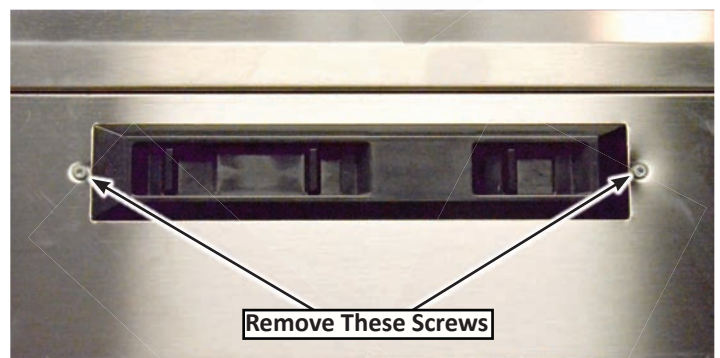

Figure 4
6. Remove (2) screws, one at on each side of the control switch, see figure 4.